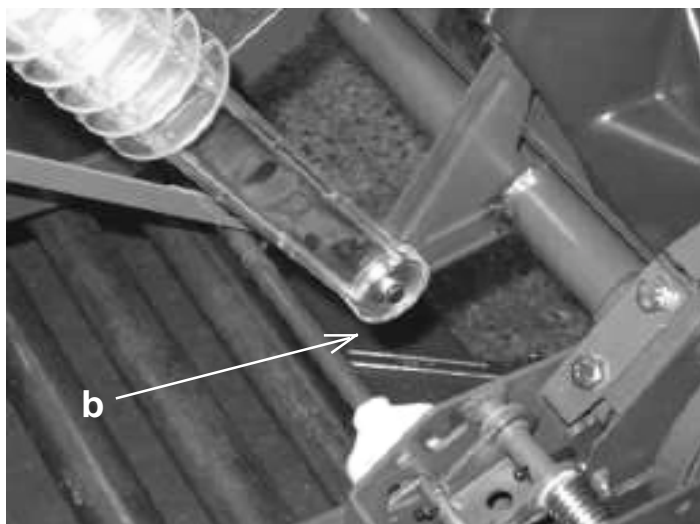

Fig. 21
- The draw bar is detached from the crank arm of the operating shaft. (fig. 21)
- Before the drawbar is connected to the crank arm of the operating shaft (fig. 21) ensure that the auxiliary knives run easily in the individual arc extinguishing chambers, and that the main knives make properly.
- The lower hold for the drawbar is freed by removing circlips on eccentric bolt (fig. 21)
- All draw bars are detached from the crank arm of the operating shaft. (fig. 21)